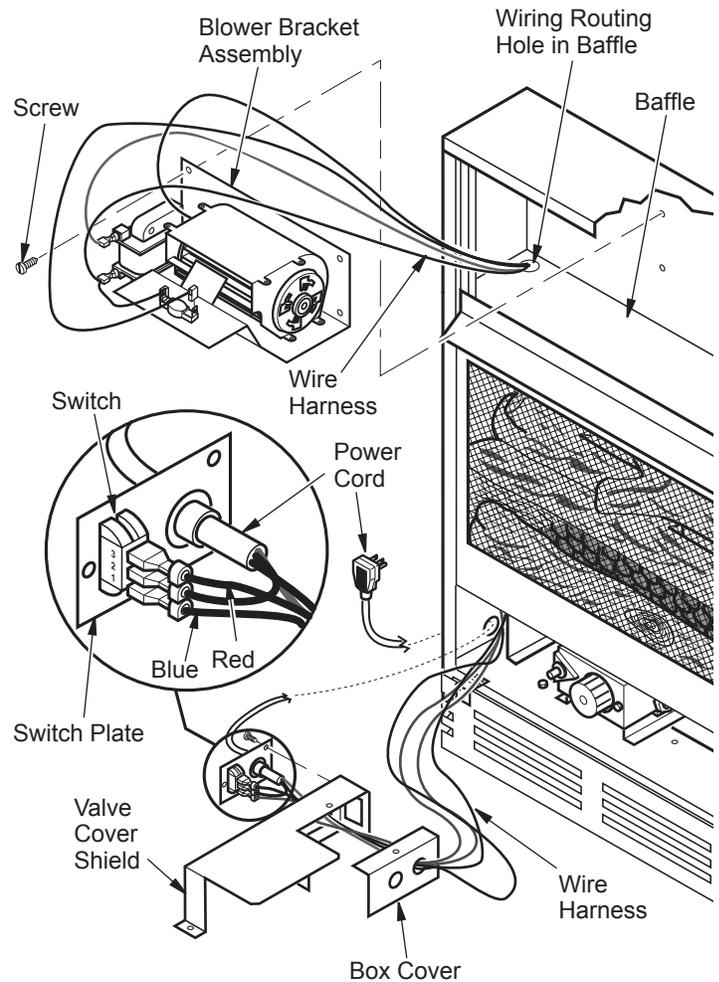
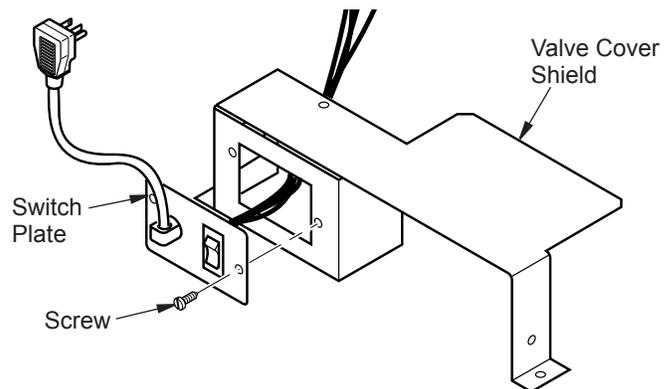

Figure 4 - Installing Blower Bracket Assembly
Figure 5 - Installing Switch Plate to Valve Cover Shield
3. In top of heater cabinet, locate four mounting holes on outer casing. Align these four holes with those on blower bracket assembly. Attach blower bracket assembly to outer casing with 4) #10 screws provided (see Figure 4).
4. Route wire harness through hole in left side of baffle. Pull wire harness through lower opening above where valve shield was removed. (See Figure 4.)
5. Insert 4 wire harness into one of the round holes in rear of valve cover shield and through rectangular hole in front of shield (see Figure 4).
6. Note the terminal numbers on back of AUTO/OFF/ON switch. They are numbered 1, 2, and 3. (See Figure 4).
9. Install switch plate on valve cover shield with 2) #10 screws provided (see Figure 5). Reinstall valve cover shield. Route power cord out of cabinet by inserting it through bushing on outer casing (see Figure 4). Plug fan kit into 120-Volt grounded power supply and test operation.